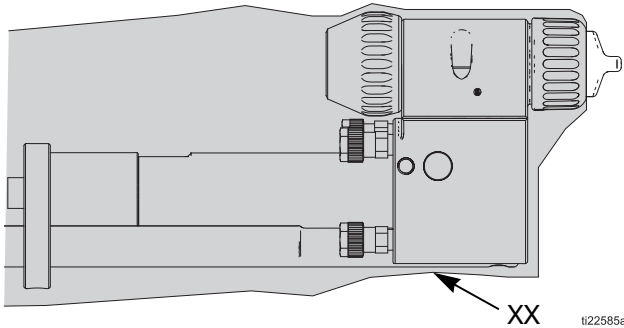

FIG. 18 Gun Cover
Install a gun cover (XX) over the front of the gun and slide it back to cover the exposed tubing and hoses at the back of the manifold. See FIG. 18.